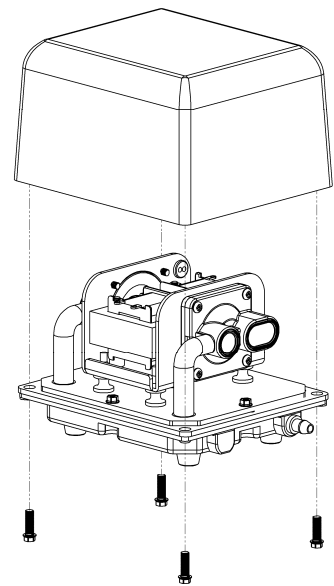

Figure 1
- A. Loosen the four screws around the aluminum upper housing, and take the housing off. (As shown in figure 1)